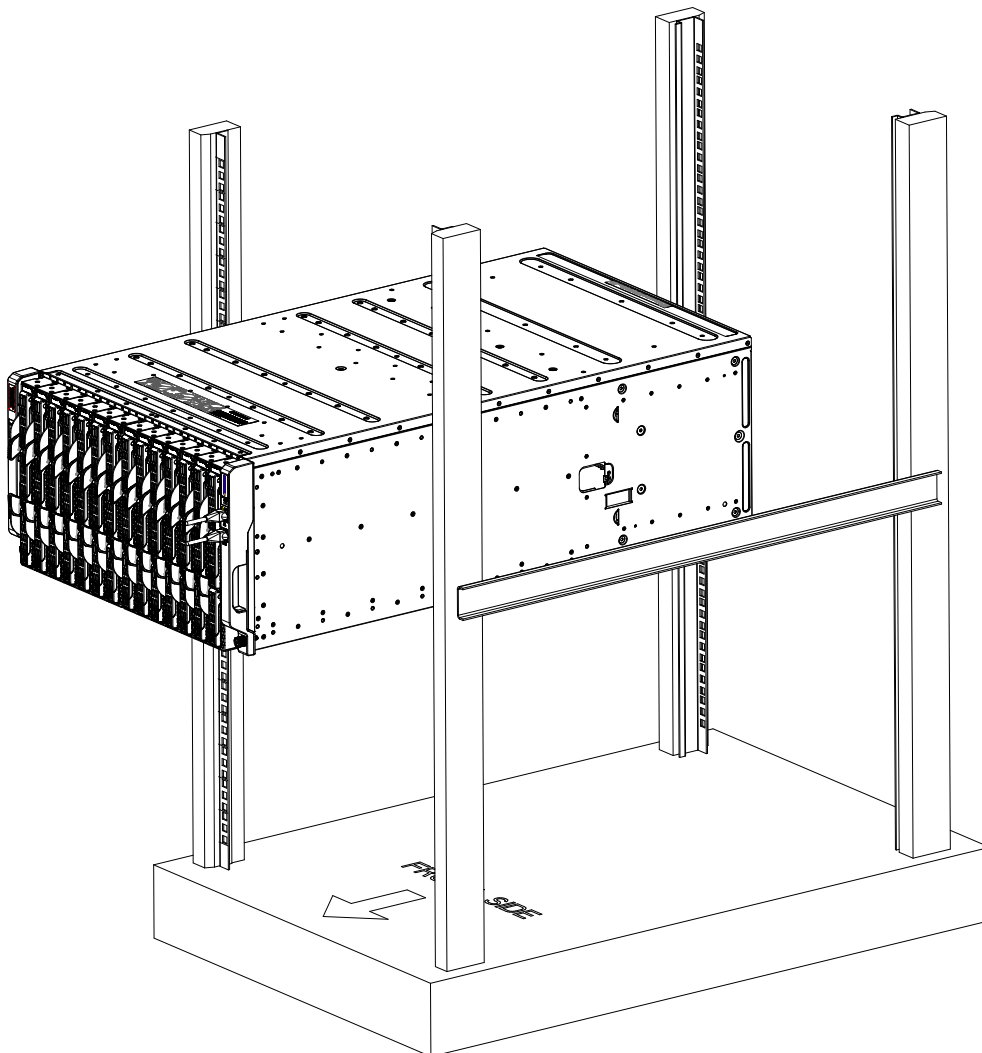

Figure 2-1. Inserting a Blade into the Enclosure
1. Slowly push the blade unit into its bay with the handles fully pulled out (see Figure 2-1).